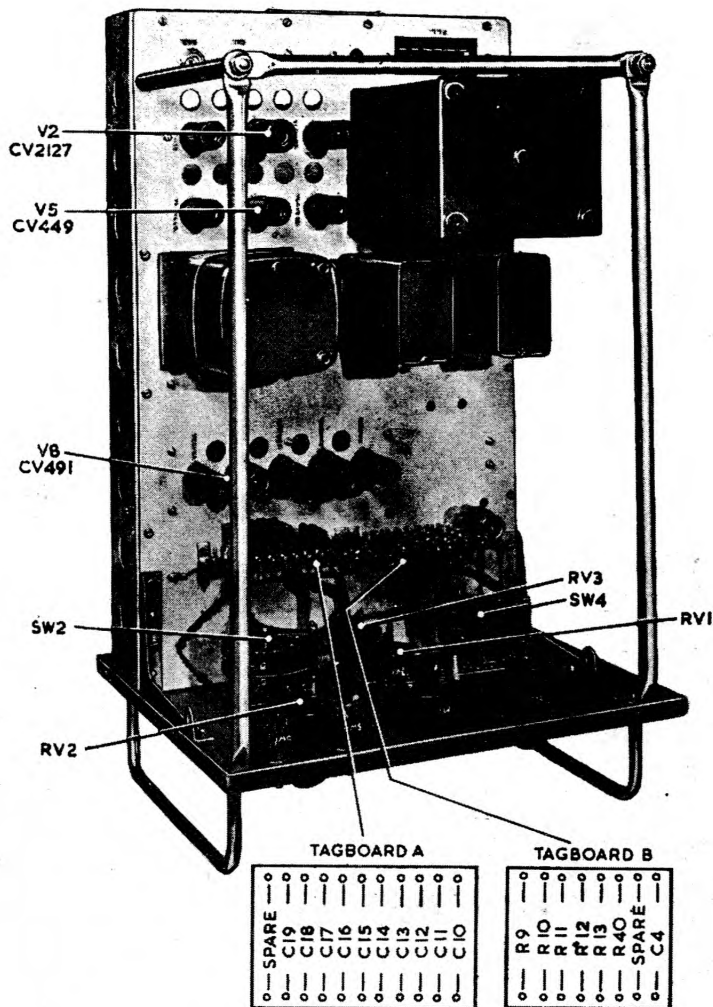

Fig. 2. Plan view
4. A circuit diagram of the waveform generator and its power supplies is given in fig. 6; top and underside views of the chassis are shown in fig. 2 and 3.